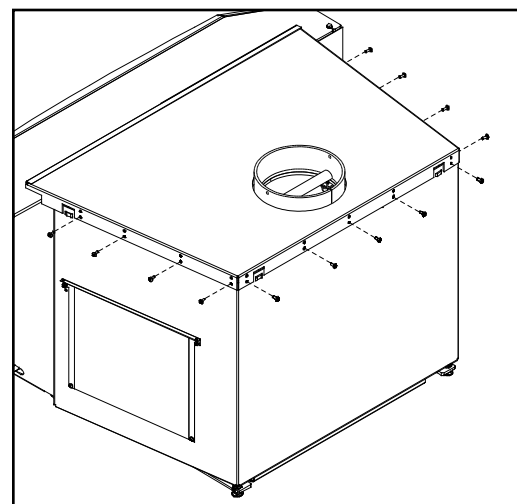

**Figure 6: Bolts to remove.**
- Remove the two lag bolts (shown in Figure 6) that secure the unit to the pallet from inside the firebox.